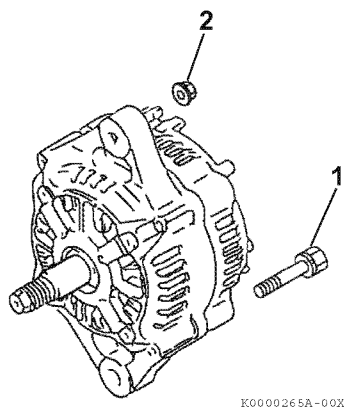

Figure 11-15
5. Align the front frame housing with the rear frame housing. Install the two bolts (**Figure 11-15, (1)**) and two nuts (**Figure 11-15, (2)**).